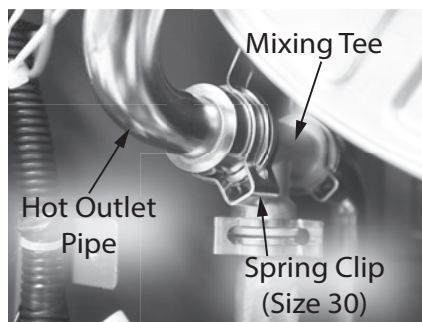

Figure 241 - Mixing tee location
- 22** Locate the hot outlet pipe and mixing tee connection shown in Figure 241. Remove the spring clip (size 30) and set aside in a safe place for reinstallation.